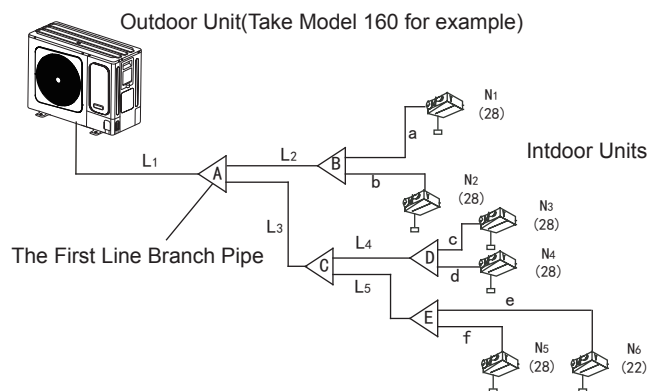
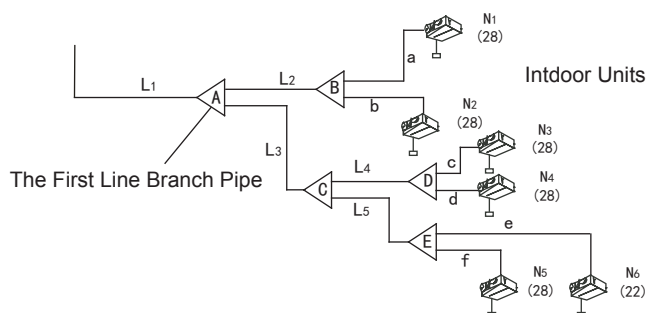
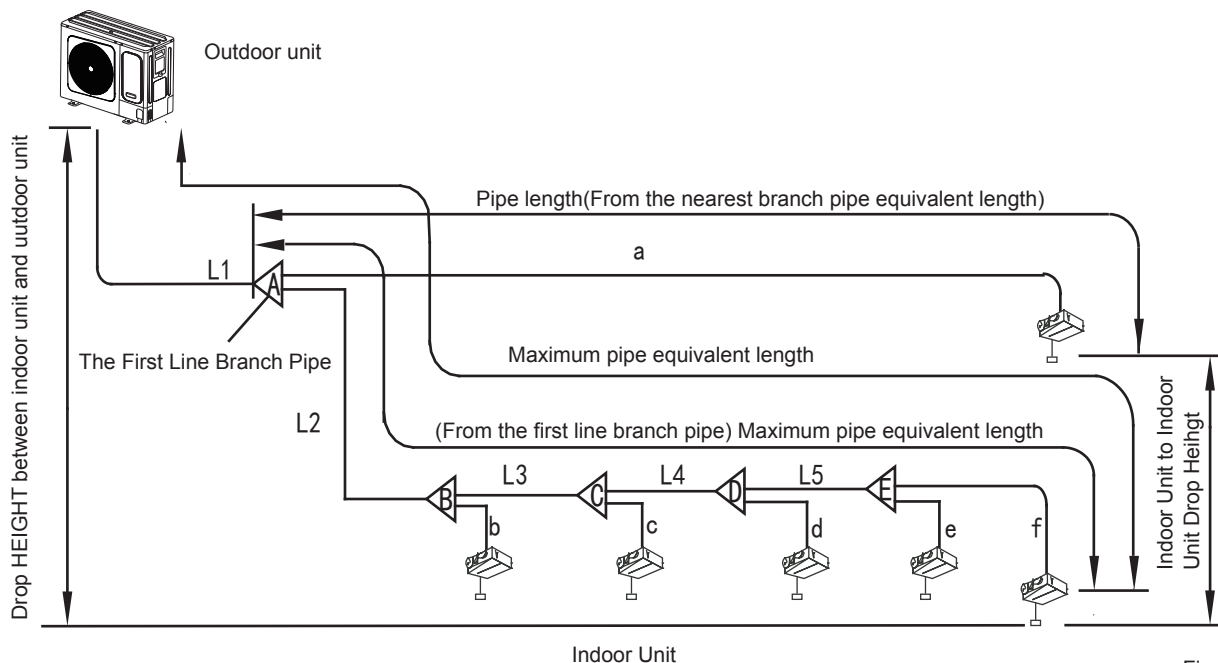

Fig. 4-5
Fig.4-6
Fig.4-7
- Example 1: In the Fig.4-5, The downstream inner units of the L2, and its total capacity is  $28 \times 2 = 56$ , refers to the Table 4.4, the air/liquid side of L2 is:  $\Phi 15.9/\Phi 9.5$ .
● Main pipe (Please refer to Fig.4-5 and Fig.4-7)
In Fig.4-6, the main pipe L1, the outdoor unit capacity is 16kW, and check the Fig.4-7 to get the size of gas pipe/liquid pipe is  $\Phi 19.1/\Phi 9.5$ , and aslo the total equivalent length of liquid side and gas side pipes is  $>90m$ , then check the Fig.4-4 to get the size of gas pipe/liquid pipe is  $\Phi 22.2/\Phi 9.5$ , and according to the maximum value principle, it should apply the  $\Phi 22.2/\Phi 9.5$ .